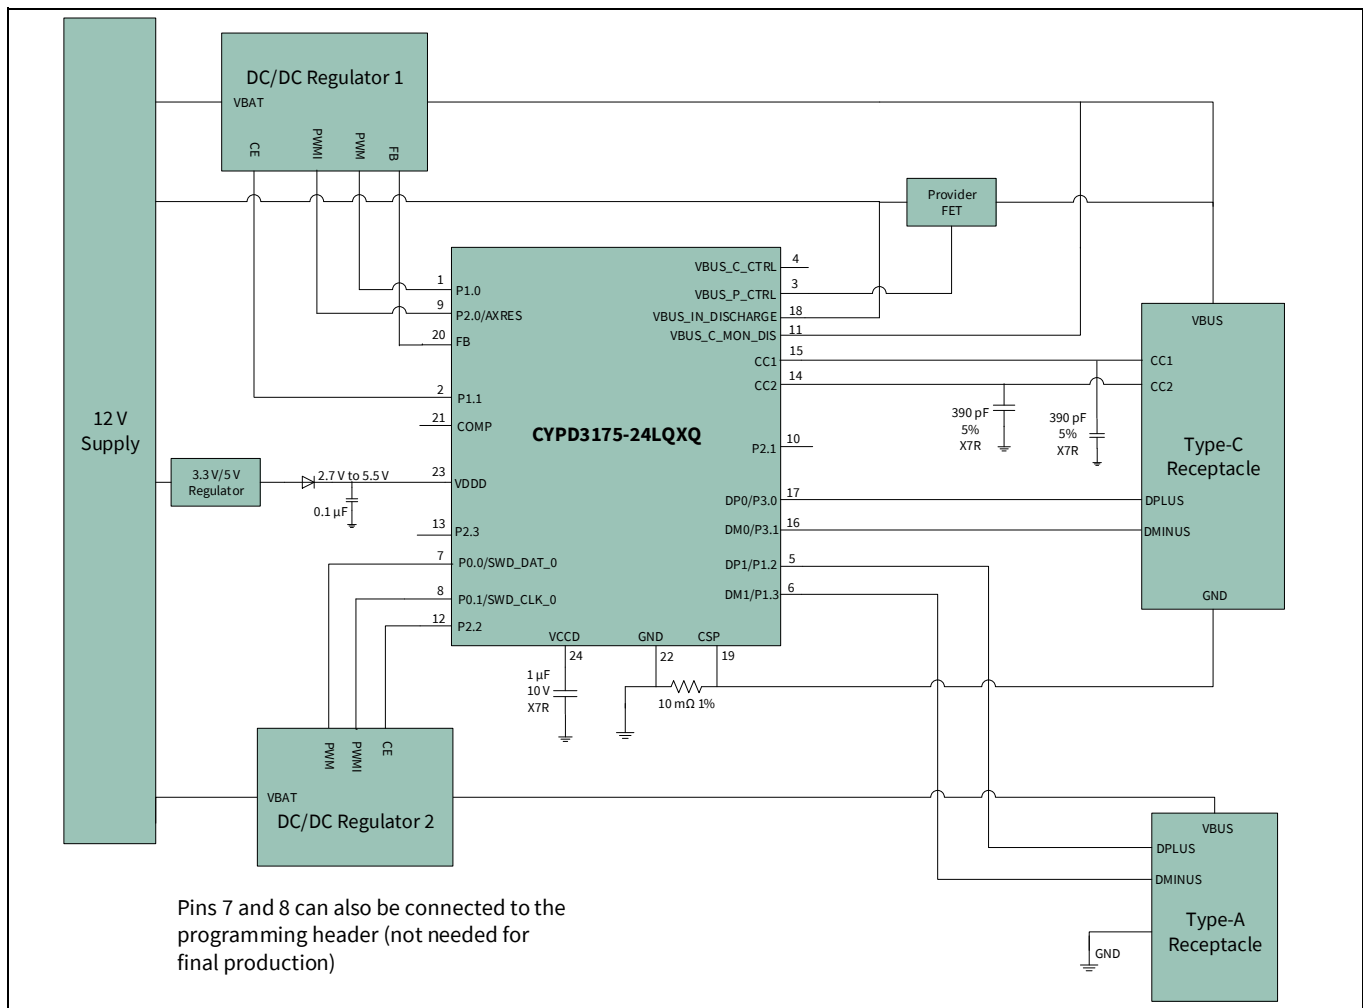

**Figure 8** CCG3PA based power adapter application diagram with direct feedback control
**Figure 8** shows the application diagram of CCG3PA based power adapter with direct feedback control. In this application, VBUS is maintained at a constant voltage. The default value of VBUS upon power up (which is usually at 5 V) is set up by choosing the appropriate resistor divider that will set the FB node at a voltage expected by the secondary controller.